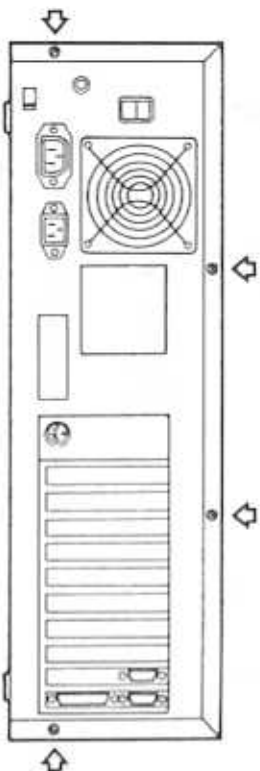

Figure 3-3. Removing the Fastening Screws
2. Using a Phillips screwdriver, remove the six cover fastening screws: four screws and a lock washer from the rear panel of the system unit, as shown in Figure 3-3, and one screw on each side near the bottom front corner of the cover.
4. Replace the six cover fastening screws: four in the rear panel of the system unit (Figure 3-3) and one on each side. Use the lock washer with one of the top screws on the rear panel.